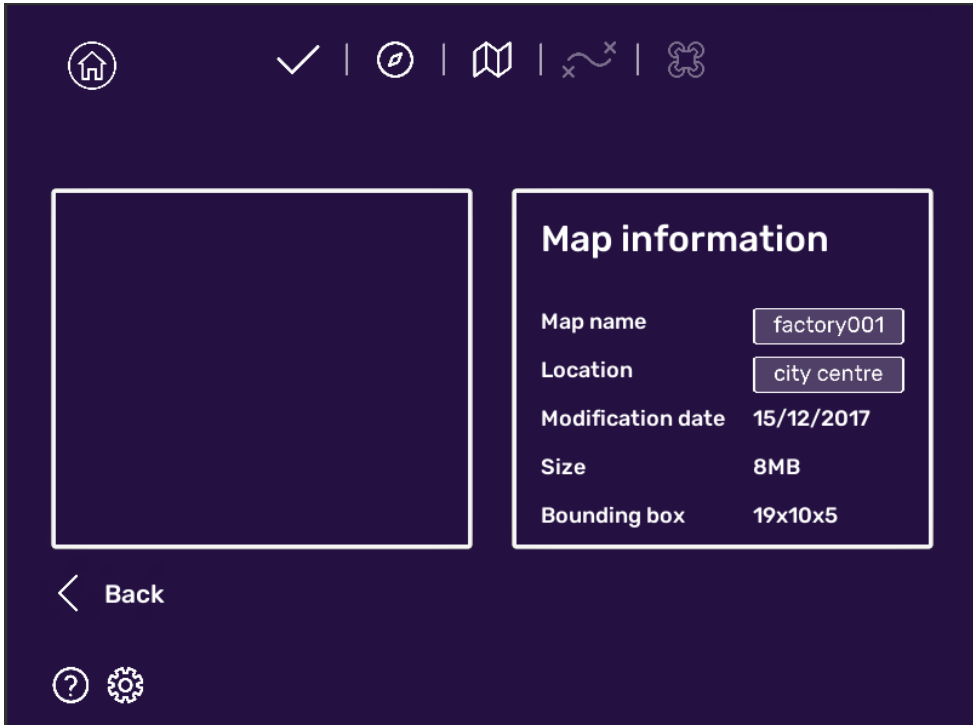

Figure 21. Map information window
2. **Info**. This shows the information associated with the mapping (see Figure 21).
The information about the map currently selected can be seen in Figure 21. This typically includes the name of the map, the place and date it was recorded and technical details such as the amount of memory used or the volume covered (see figure below).
Click the Build Scene button and enter the map name and location of the scene to build (see Figure 21). Enter the name and author of the plan. Press the Continue button to move to the next configuration step in the general parameters window for the plan.